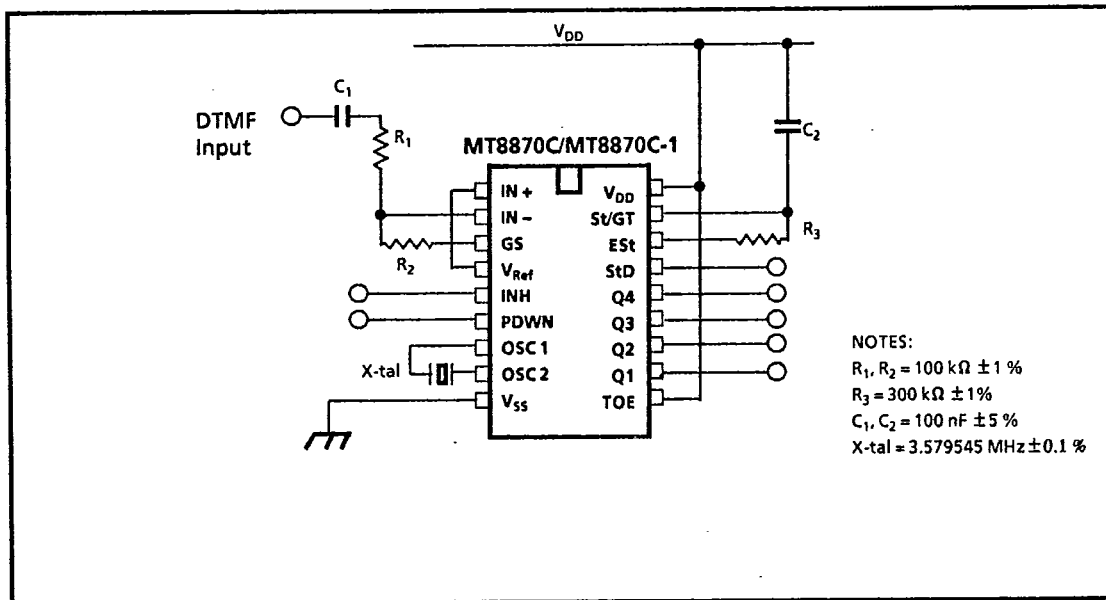
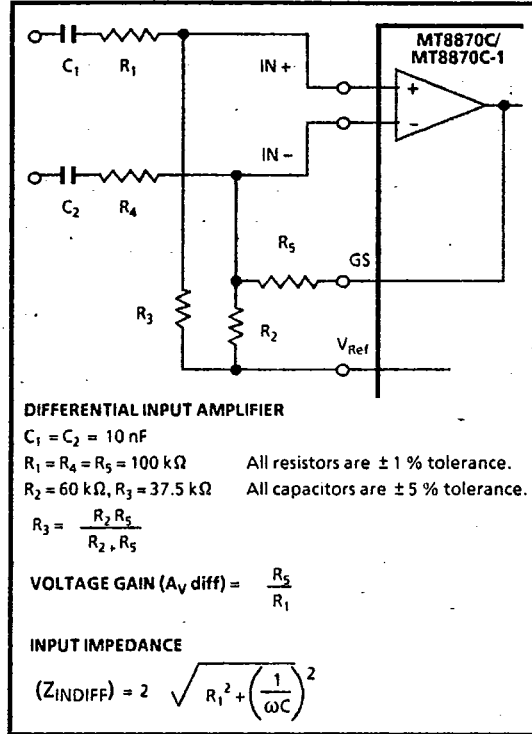

Figure 2 - Single-Ended Input Configuration
Figure 7- Differential Input Configuration
**MT8870C AC Electrical Characteristics†** -  $V_{DD} = 5.0V \pm 5\%$ ,  $V_{SS} = 0V$ ,  $-40^\circ C \leq T_O \leq +85^\circ C$ , using Test Circuit shown in Figure 2
**MT8870C-1 AC Electrical Characteristics**1 -  $V_{DD} = 5.0V \pm 5\%$ ,  $V_{SS} = 0V$ ,  $-40^{\circ}C \leq T_O \leq +85^{\circ}C$ , using Test Circuit shown in Figure 2
AC Electrical Characteristics -  $V_{DD} = 5.0V \pm 5\%$ ,  $V_{SS} = 0V$ ,  $-40^\circ C \leq T_o \leq +85^\circ C$ , using Test Circuit shown in Figure 2
The input arrangement of the MT8870C/MT8870C-1 provides a differential-input operational amplifier as well as a bias source ( $V_{Ref}$ ) which is used to bias the inputs at mid-rail. Provision is made for connection of a feedback resistor to the op-amp output (G5) for adjustment of gain. In a single-ended configuration, the input pins are connected as shown in Figure 2 with the op-amp connected for unity gain and  $V_{Ref}$  biasing the input at  $\frac{1}{2}V_{DD}$ . Figure 7 shows the differential configuration, which permits the adjustment of gain with the feedback resistor  $R_5$ .
The internal clock circuit is completed with the addition of an external 3.579545 MHz crystal and is normally connected as shown in Figure 2 (Single Ended Input Configuration). However, it is possible